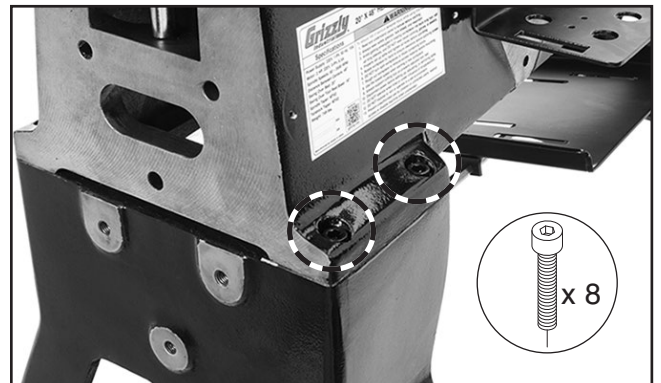

Figure 19. Securing lathe bedway to leg assembly.
9. Once mounting holes are aligned, secure lathe assembly to legs with (8) M12-1.75 x 35 cap screws, as shown in **Figure 19**.